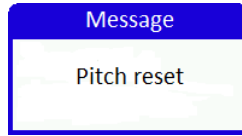

Figure 5: Setting pitch
- Pushing and holding the `up` (on 80mm) or `down` (on 3.5”) button sets current pitch, see Figure 5. It will take the current pitch and set it as zero pitch. The change is not immediate and it takes ca. 5 seconds for AHRS unit to accept it. Once Emsis is switched off, this setting is forgotten.